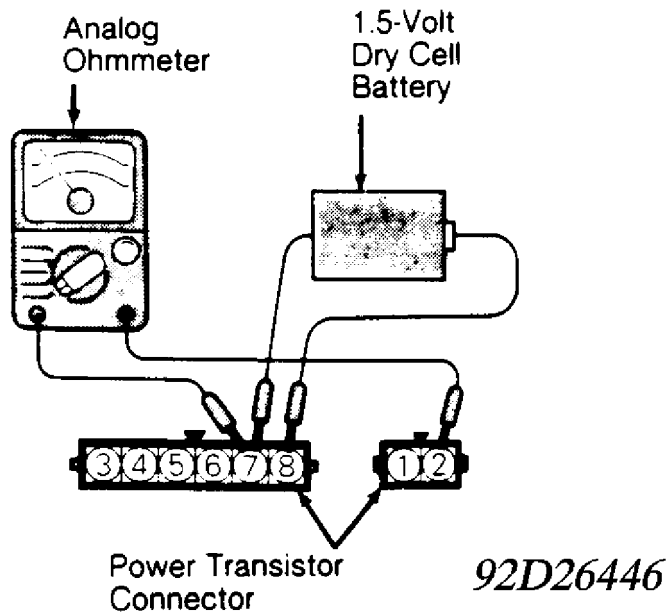

Fig. 7: Testing Power Transistor (Colt, Colt 200 & Summit)
1) Disconnect power transistor connectors. Using a 1.5-volt dry cell battery, connect negative end of 1.5-volt battery to terminal No. 7 of power transistor and positive end of 1.5-volt battery to power transistor terminal No. 8. See Fig. 7.